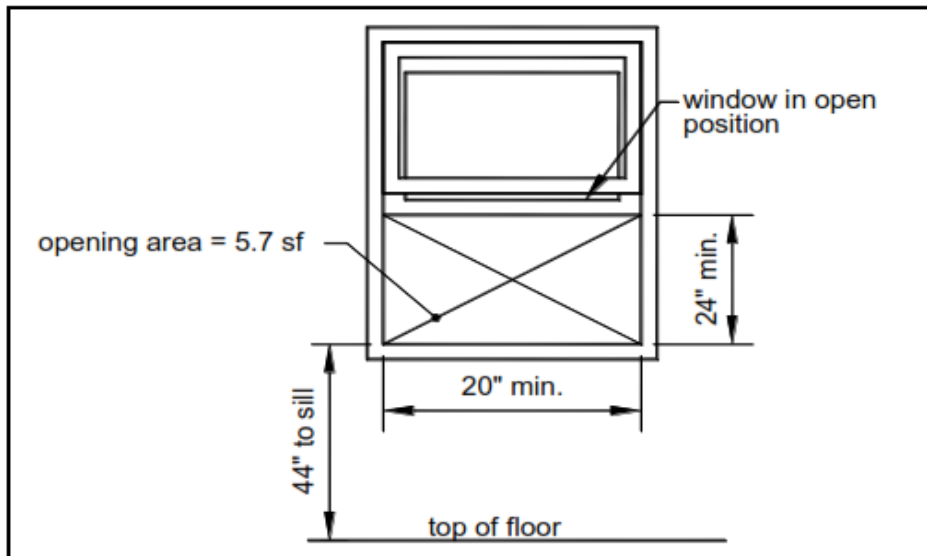

FIGURE 1: EMERGENCY ESCAPE AND RESCUE REQUIREMENTS
- See FIGURE 1 for more opening requirements.